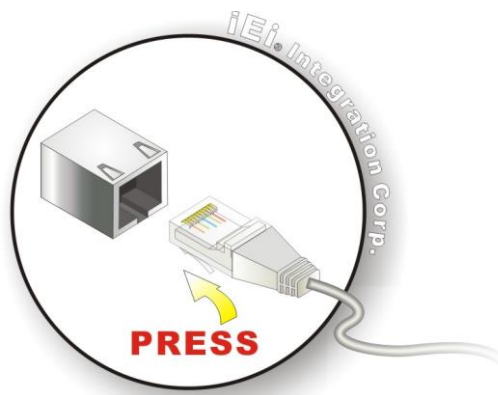

Figure 4-8: LAN Connection
Step 2: Align the connectors. Align the RJ-45 connector on the LAN cable with one of the RJ-45 connectors on the TANK-XM812 Series. See **Figure 4-8**.